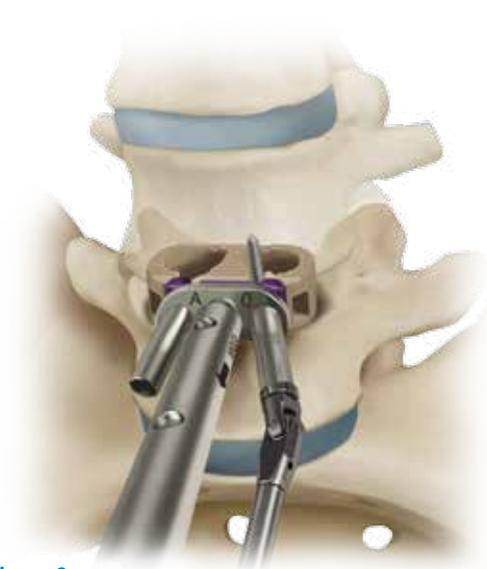

Figure 9:
- Sequentially insert the drill or awl into both barrels of drill guide A until the stop is reached. This provides 18mm of penetration (Figure 9).